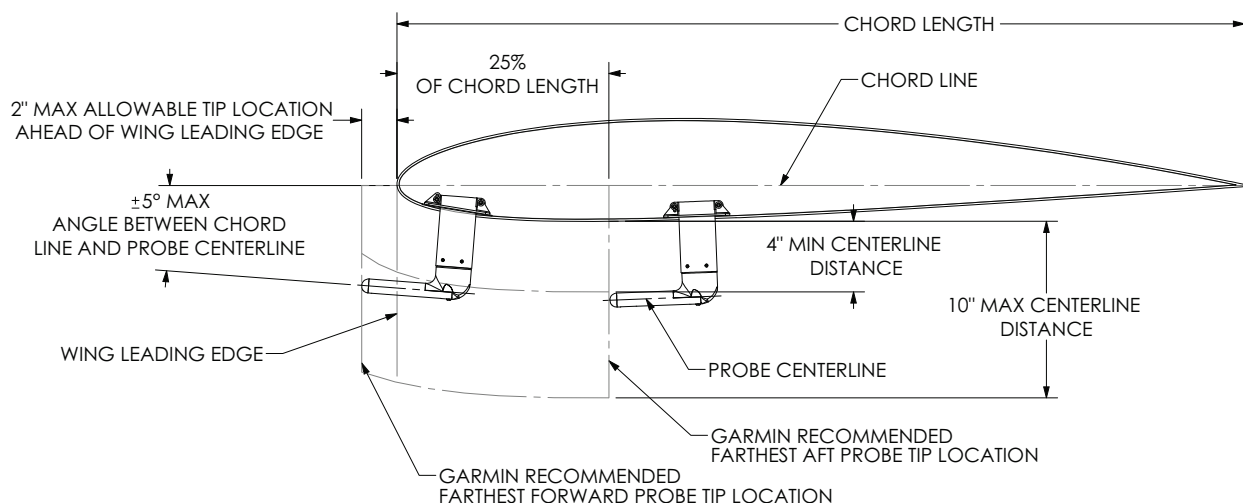

Figure 5-4 GAP 26, Mounting Location Guidance
- Consider using the aircraft designer/manufacturer's recommended mounting location (if specified). Optimal AOA functionality results when the tip of the GAP 26 probe is located no further back than 25% of the wing chord length from the leading edge. (See Figure 5-4)